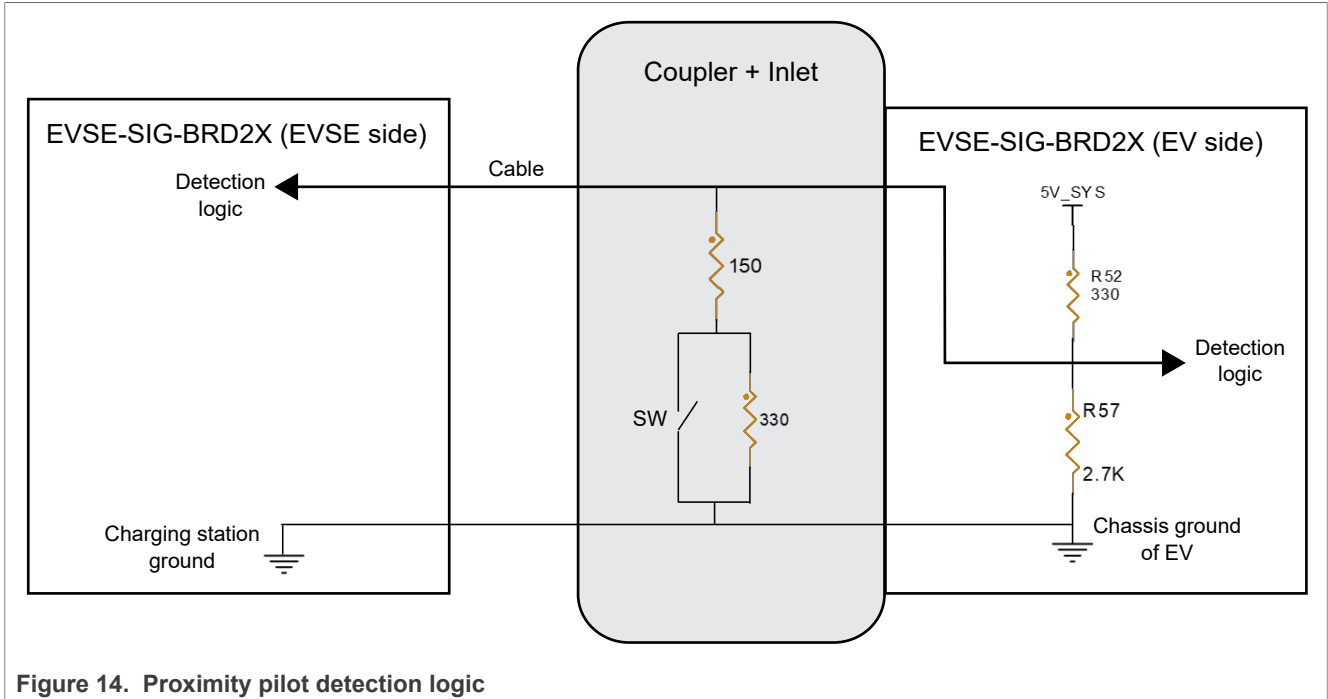

Figure 14. Proximity pilot detection logic
The proximity detection scheme is shown in Figure 14.
- If the coupler is connected and the switch in Figure 14 is closed, PP\_DET = 1 V and the WAKEUP signal becomes high.
- If the coupler is connected and the switch in Figure 14 is open, PP\_DET = 1.8 V and the WAKEUP signal becomes high.